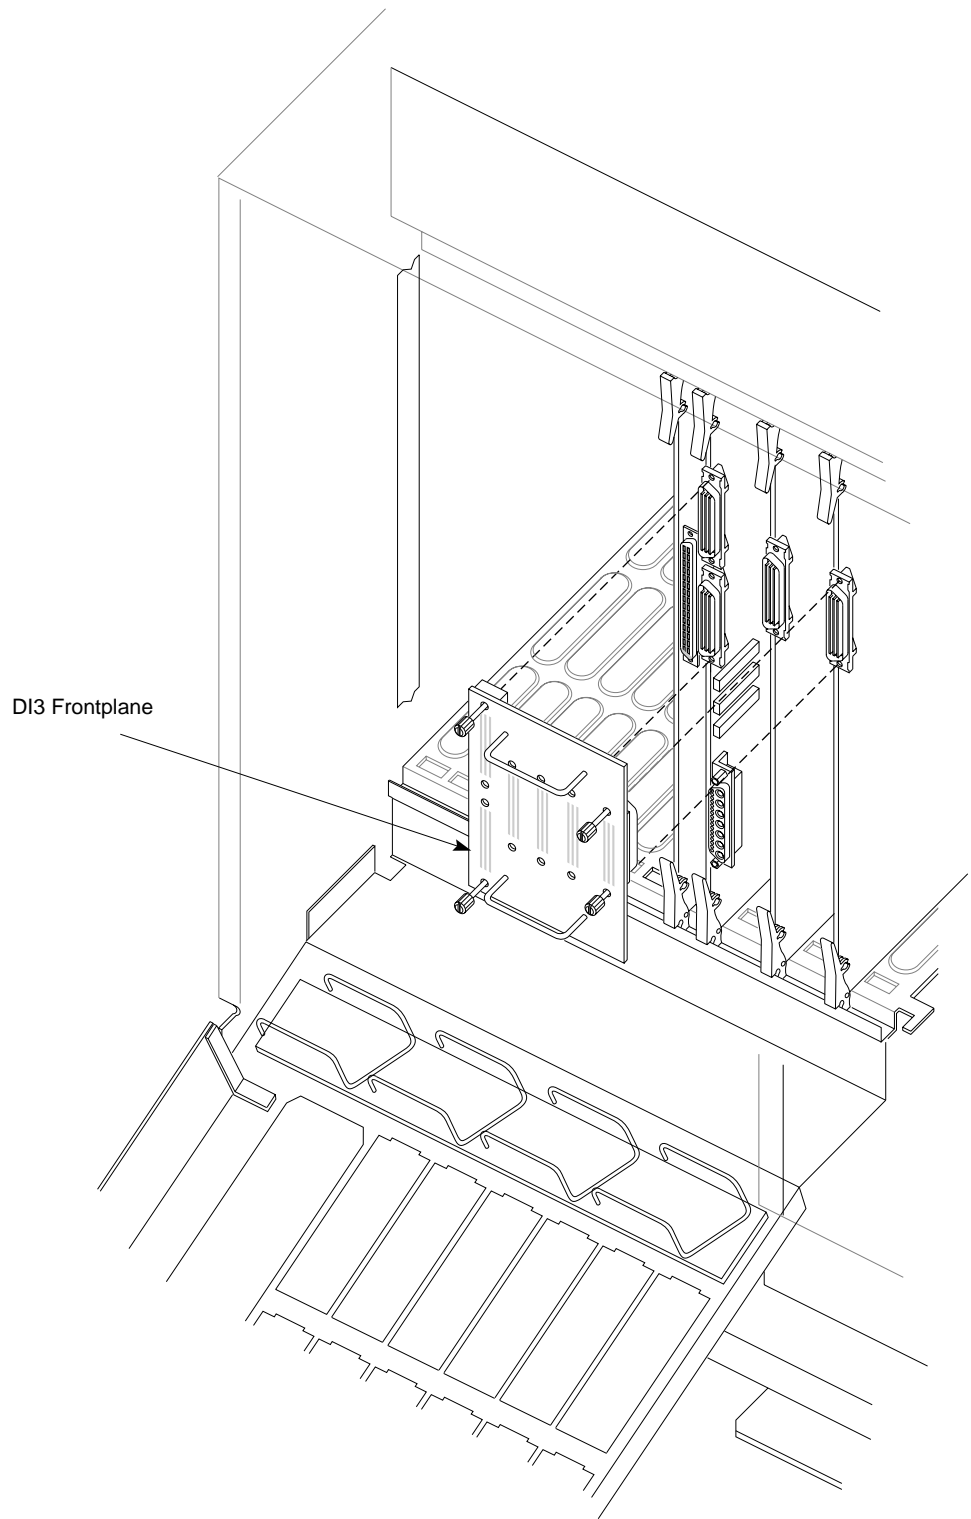

Figure 3-16 Installing the DI3 Front Plane for RealityEngine
5. Install the front plane DI3 by securing the jack screws into the corresponding thread holes on the RM4T and DG2 boards, as shown in Figure 3-16.